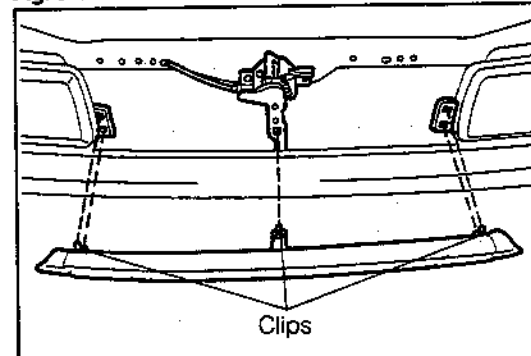

**Fig. 9-44**
1. Install the emblem (TURBO) with the two screws. (See Fig. 9-44.)